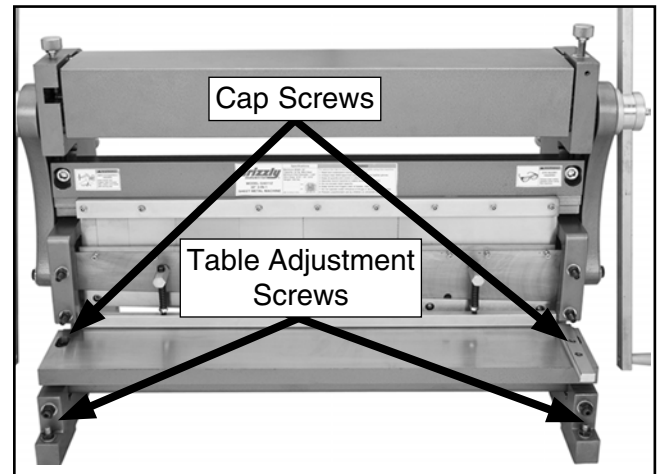

Figure 48. Table adjustment controls.
1. Loosen cap screws on both ends of shear table that secure it to machine (see **Figure 48**).